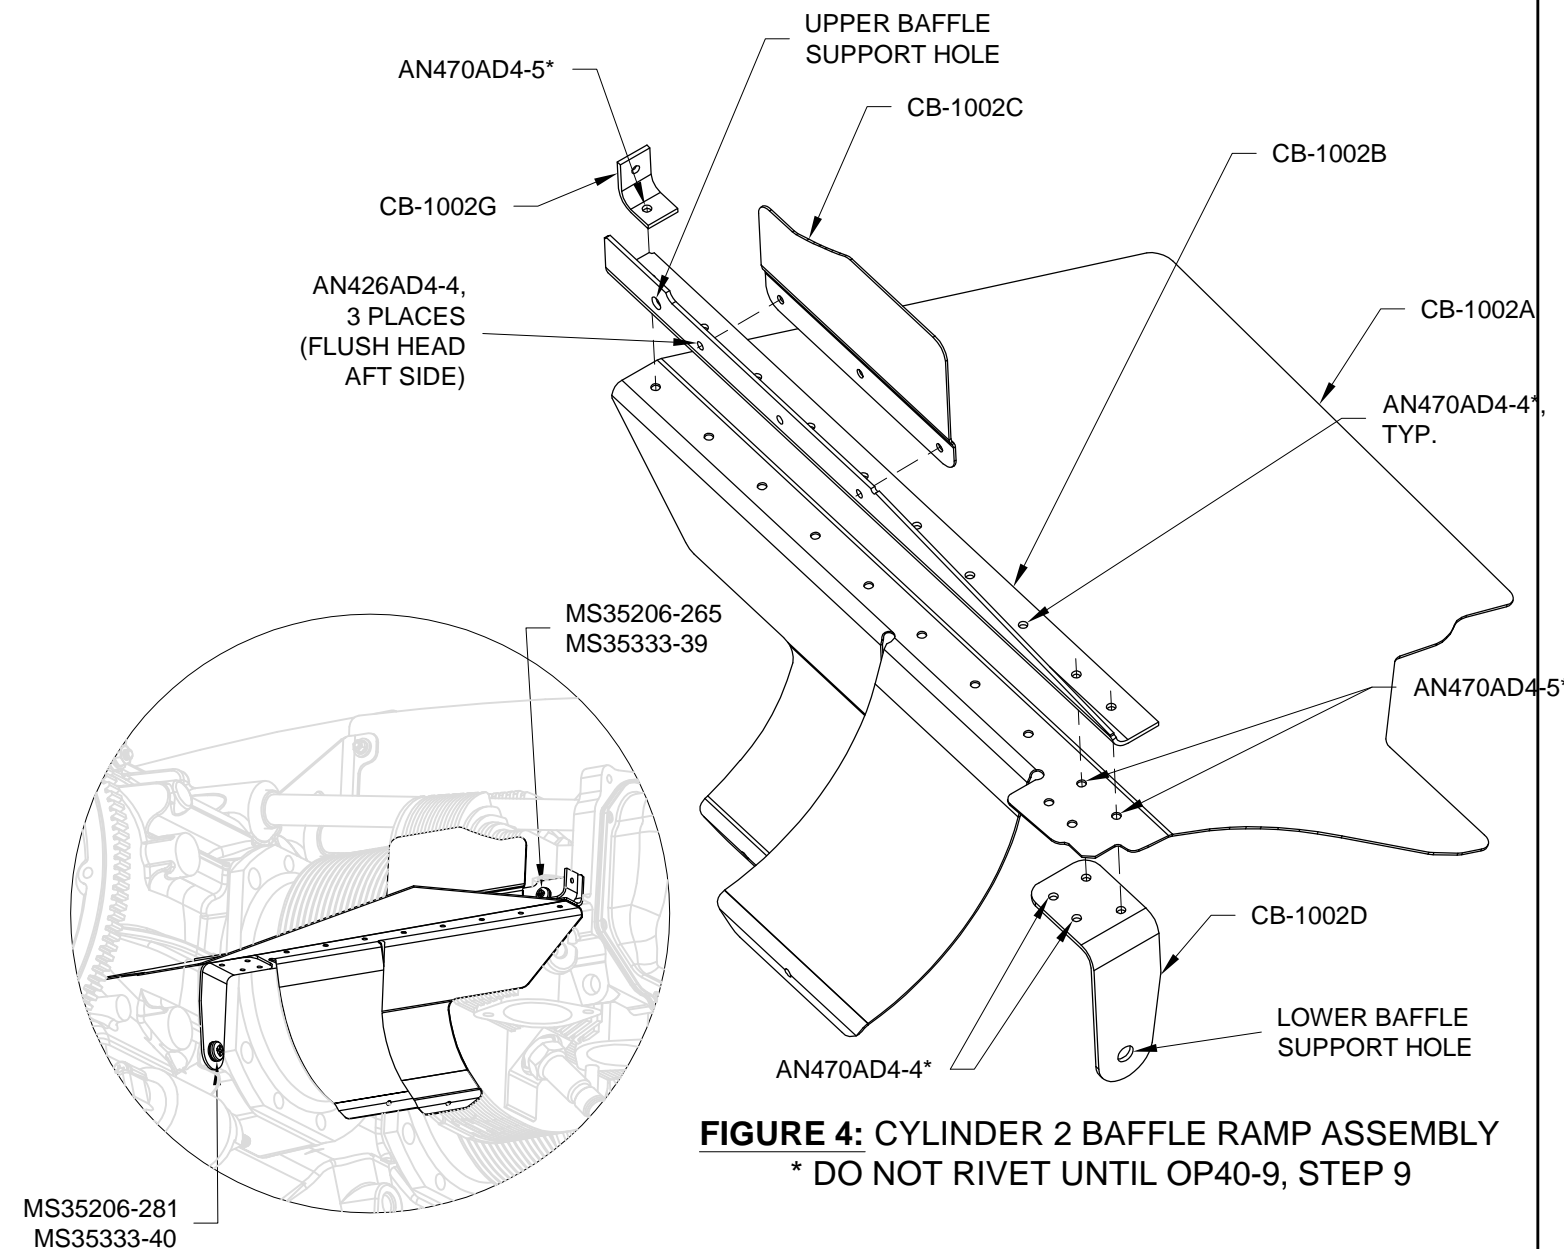
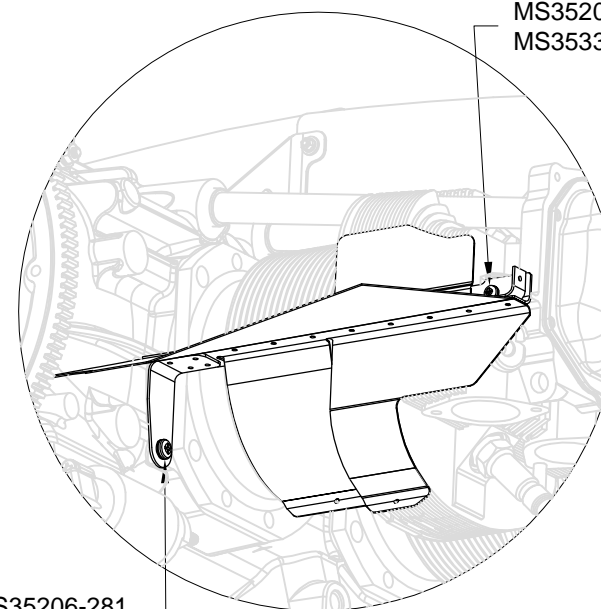
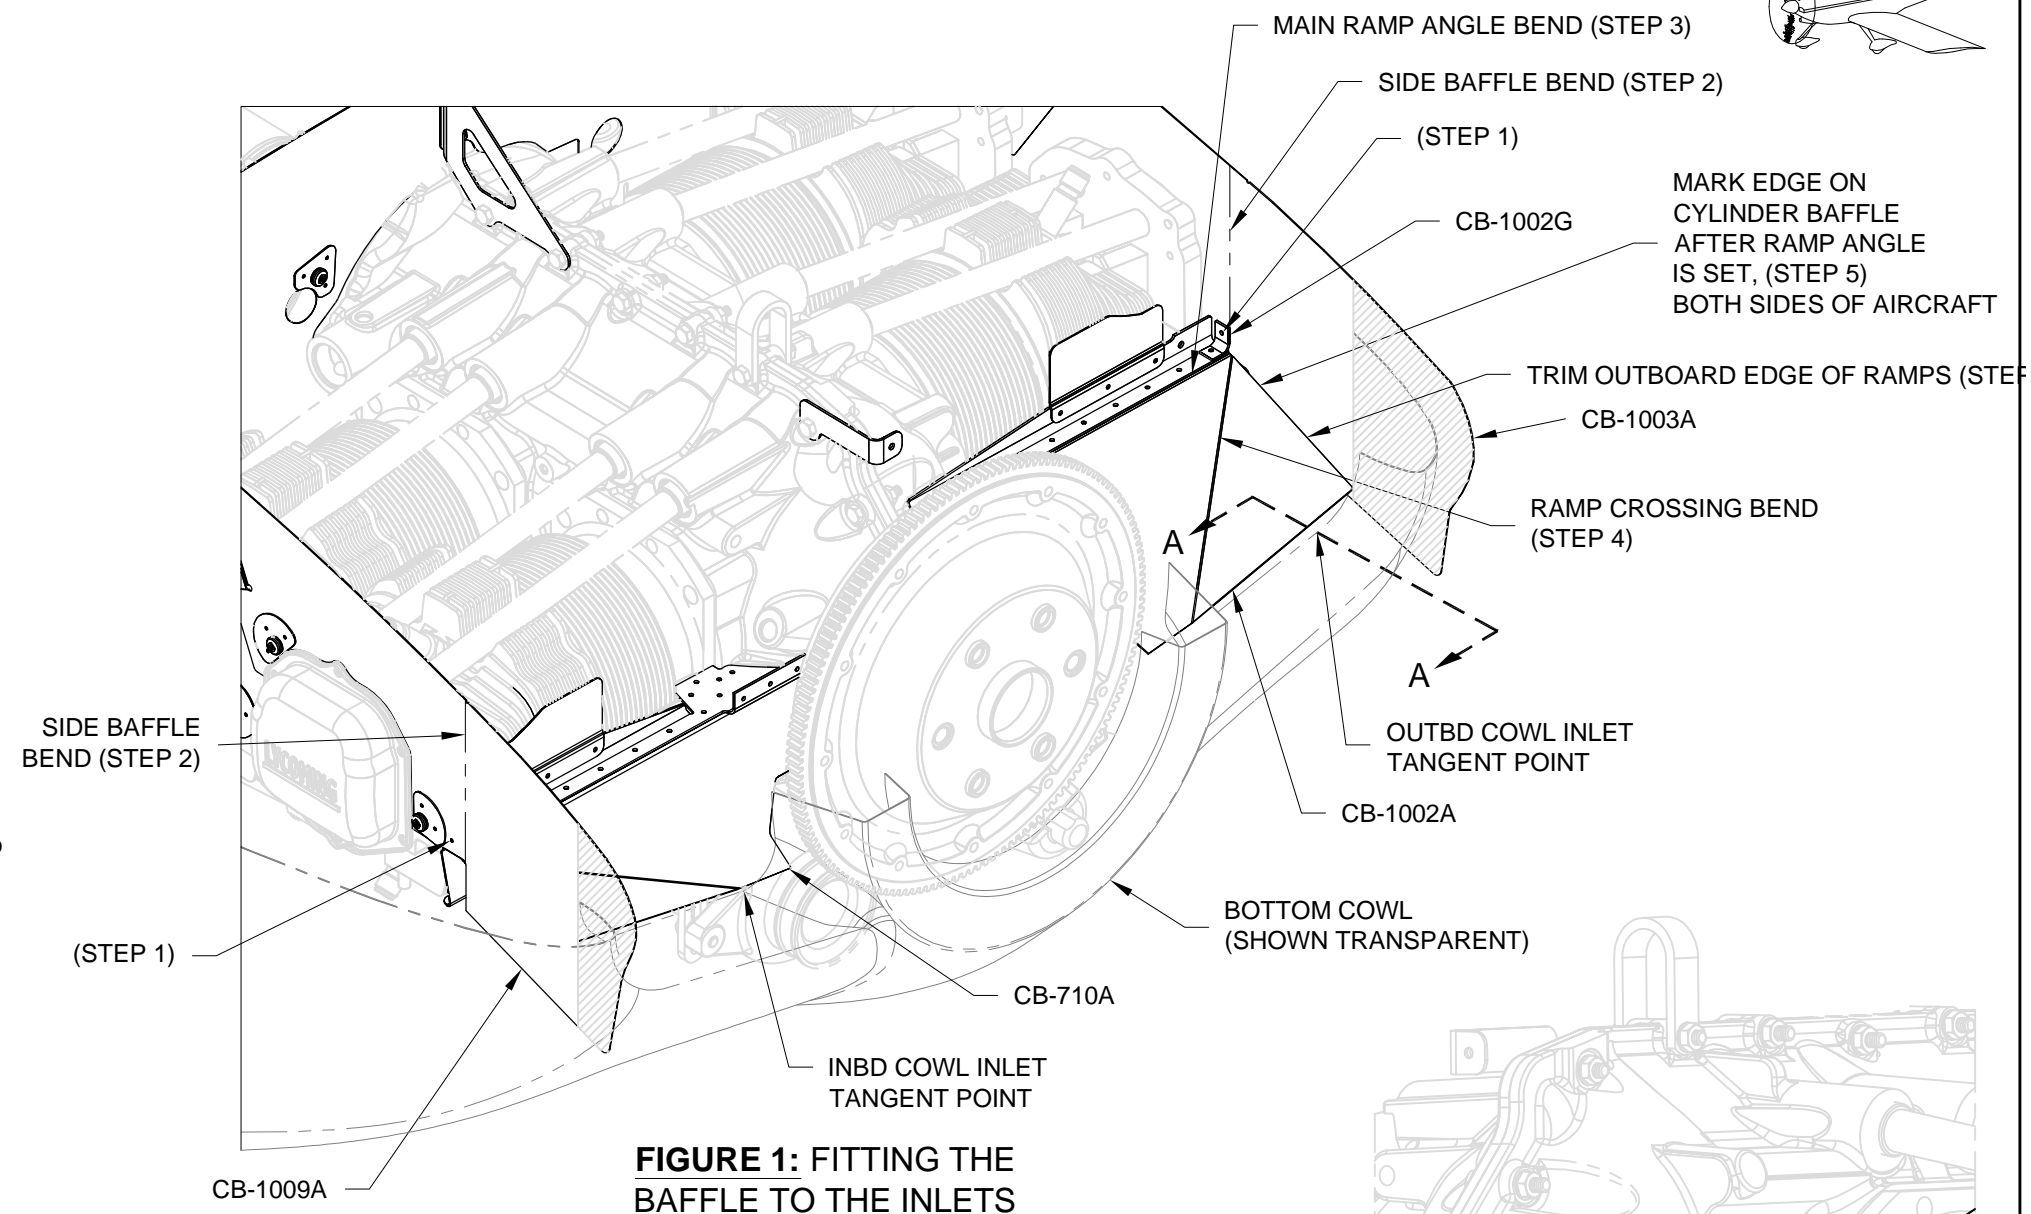

FIGURE 4: CYLINDER 2 BAFFLE RAMP ASSEMBLY
FIGURE 5: CYLINDER 2 BAFFLE RAMP ASSEMBLY INSTALL
FIGURE 1: FITTING THE BAFFLE TO THE INLETS
Step 6: Cleco then final-drill # 30 all the parts shown in Figure 4. Final-Drill #12 the upper baffle support hole in the CB-1002B Stiffener and 1/4 dia. the lower support hole in the CB-1002D Fwd Left Support Bracket as called out in Figure 4.
Step 8: Rivet the CB-1002C Left Air Dam to the CB-1002B Stiffener per the callout in Figure 4.
Step 9: Cleco the Cylinder 2 Baffle Ramp Assembly together as shown in Figure 4. Attach the assembly to the engine as shown in Figure 5.
Step 5: Mark the outbd edge of the CB-1002A and CB-710A Fwd Air Ramps on the CB-1003A and CB-1009A Cylinder 1 and 2 Baffles. See Figure 1.
Step 9: Rivet the CB-1002G Clip, CB-1002B Stiffener and CB-1002D Fwd Left Support Bracket to the CB-1002A Fwd Left Air Ramp per the rivet callouts on Page OP40-8, Figure 4. Rivet the CB-1010G Clip, CB-710B Stiffener and CB-710D Fwd Right Support Bracket to the CB-710A Fwd Right Air Ramp per the rivet callouts on Page OP40-8, Figure 1.
Step 1: Clamp the CB-1003A Cylinder 2 Baffle to a table as shown in Figure 1. Align the mark created on Page OP40-9, Step 5 with the edge of the table.